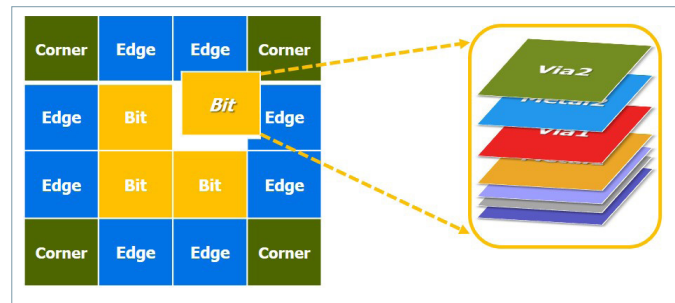

Figure 1: An SRAM block consists of multiple cells, and each cell includes multiple layers.
Memory is a critical component in system-on-chip (SOC) designs, especially at advanced nodes. SoCs require a variety of memory blocks, such as static random-access memory (SRAM) and dynamic RAM (DRAM), to perform computations. SRAM blocks, which consist of an assembly of specialized calls that abut or overlap one another in a specific arrangement that matches the circuit specifications (figure 1), are typically used for operations requiring high-speed access to frequently used data. Most integrated circuit (IC) design companies use proven SRAM blocks from the foundries as intellectual property (IP), rather than creating their own SRAM designs.